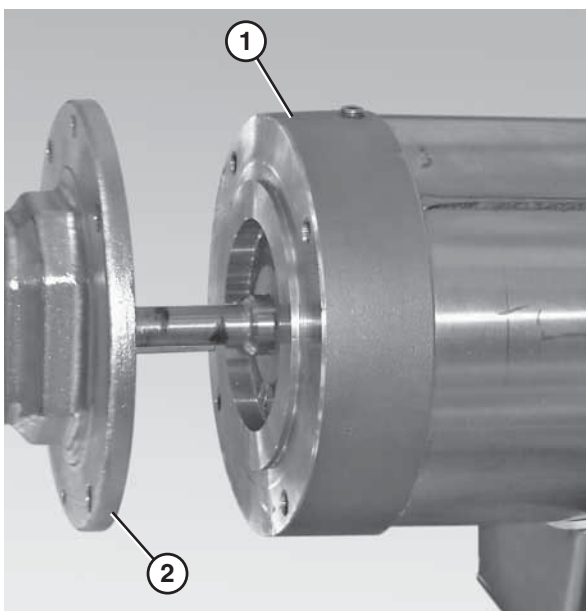

Figure 38
6. Detach the motor (Figure 38, item 1) from the gear reducer (Figure 38, item 2).